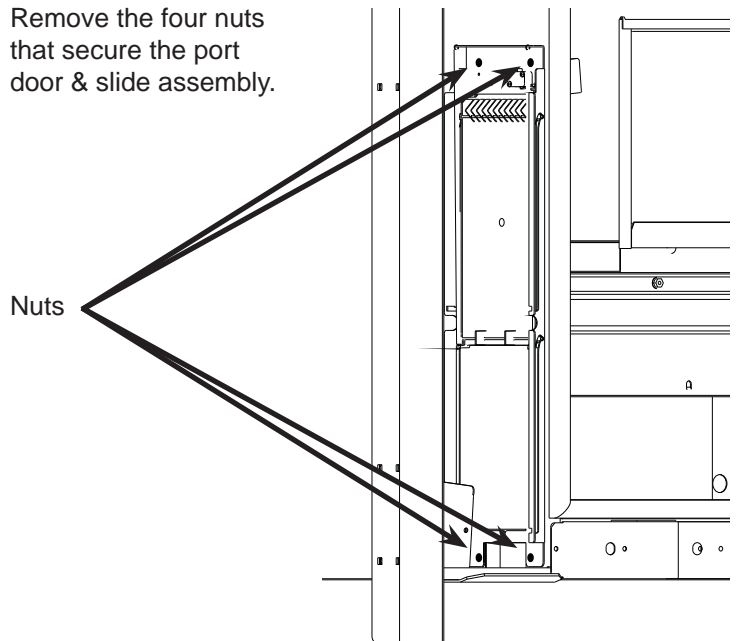

Figure 4.
12. At the bottom of the port door & slide assembly is a tab that bends out to prevent the delivery door from sliding down too far. Bend this tab in so that the delivery door can slide past this tab. (Refer to Figure 4.)
13. Slide the delivery door down to the notches to allow removal of this delivery door. (Refer to Figure 4.)